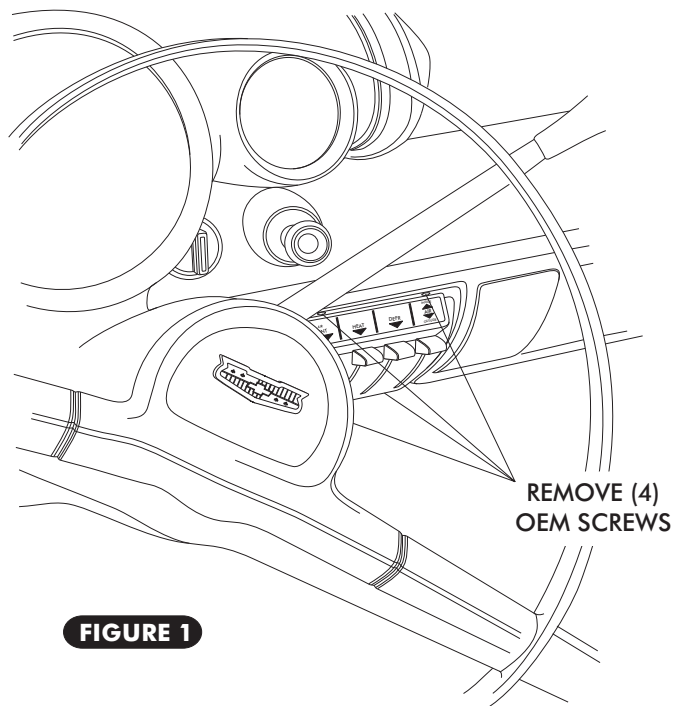

FIGURE 1
- REMOVE THE (4) OEM MOUNTING SCREWS FROM CONTROL PANEL. SEE FIGURE 1.